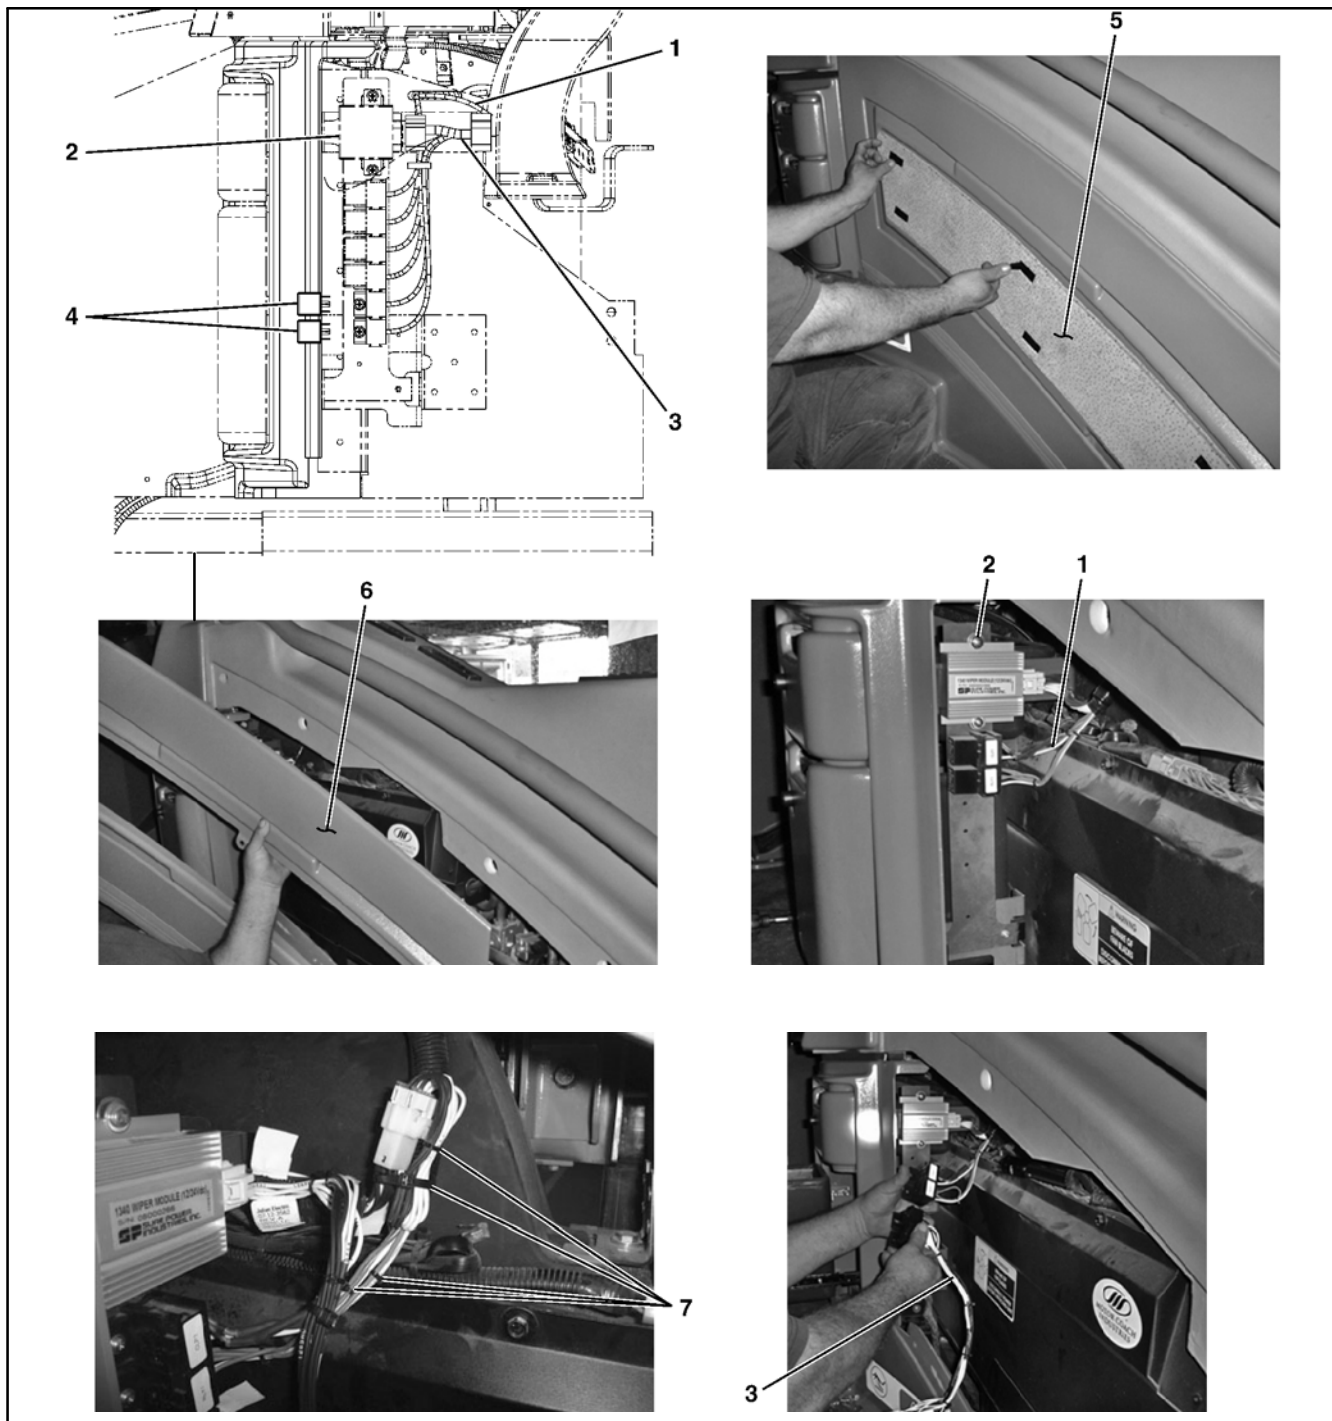

Figure 2. Relay Installation
8. Remove the fabric return air panel and the return air panel (refer to Figure 2).
9. Locate dash harness Plug X145 (J1R). Unplug Plug X145 (J1R) from the wiper controller (refer to Figure 2).